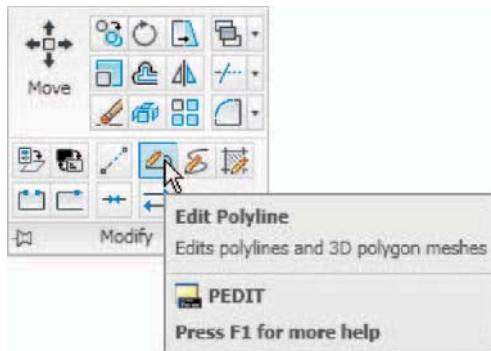

Fig. 3.42 Calling **Edit Polyline** from the **Home/Modify** panel
- Call the **Edit Polyline** tool either from the **Home/Modify** panel (Fig. 3.42) or from the **Modify** drop-down menu, or by *entering pe* or **pedit** at the command line, which then shows: